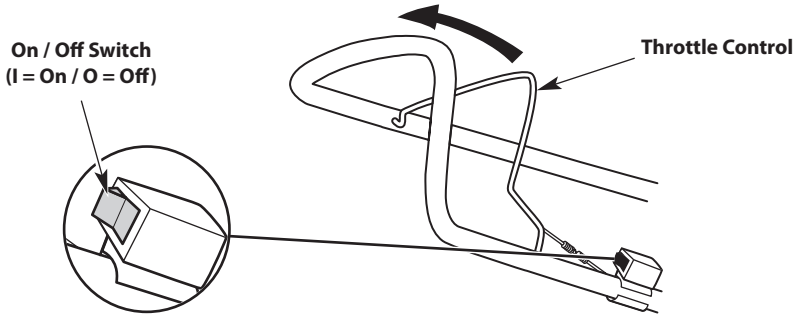

Fig. 5
NOTE: There is no need to turn the unit on. The On/Off switch is in the **On (I)** position at all times (Fig. 5).
2. Press and hold the On/Off switch in the **Off (O)** position until the engine comes to a complete stop (Fig. 5).